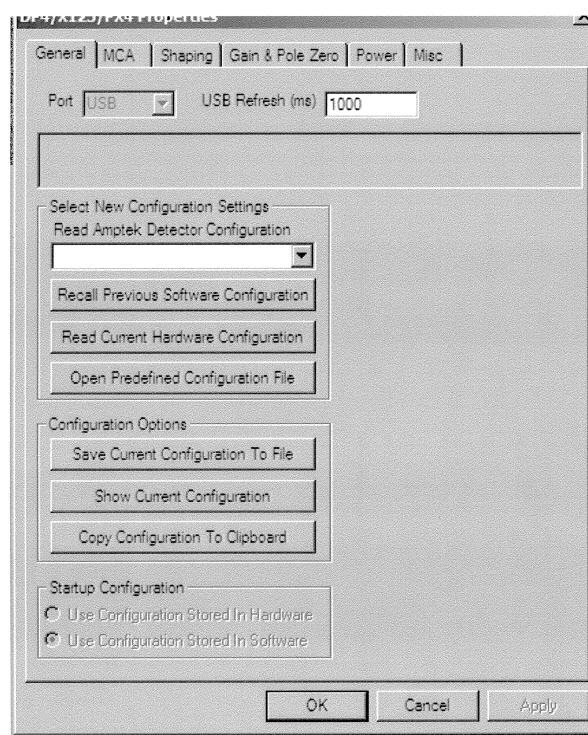
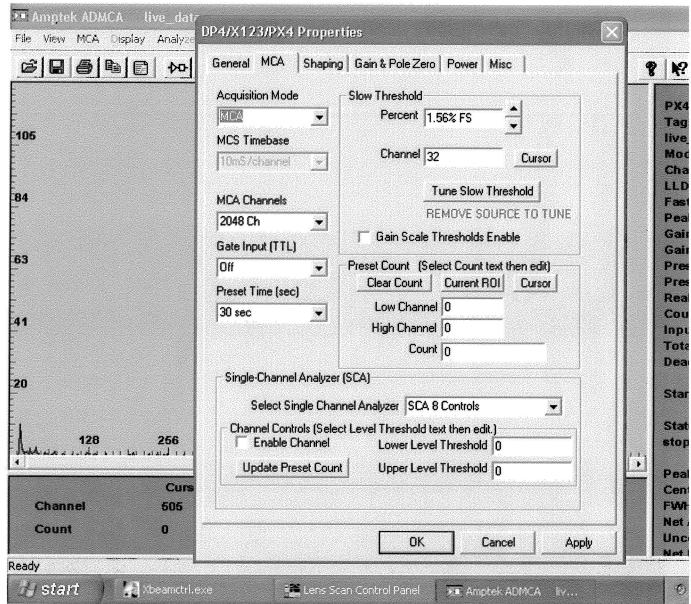

Figure 6: DP4/X123/PX4 Properties window
Figure 7: the MCA tab
- The DP4/X123/PX4 Properties window will open as shown in Figure 6. Click the ‘MCA’ tab, shown in Figure 7, and perform the following: